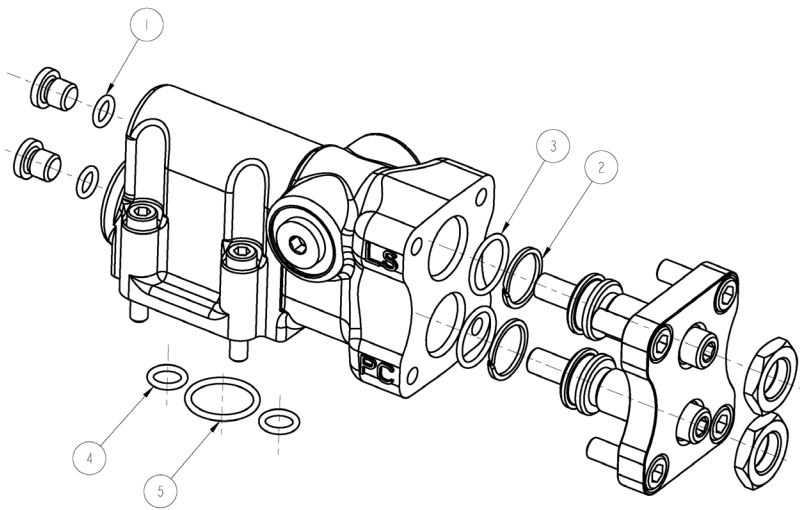

Figure 17
- 1. Remove the four screws that fix the compensator housing to the end cap (Figure 17, item ②).
- 2. Dismantle the compensator and remove the three O - rings (Figure 17, item ③).
5. Install three O-rings (Figure 17, ③).
6. Fix the compensator housing to the end cover using four screws (Figure 17, ②), and tighten them with a torque of 31-37 Nm. When tightening, do it in a crisscross pattern and retighten the first screw.